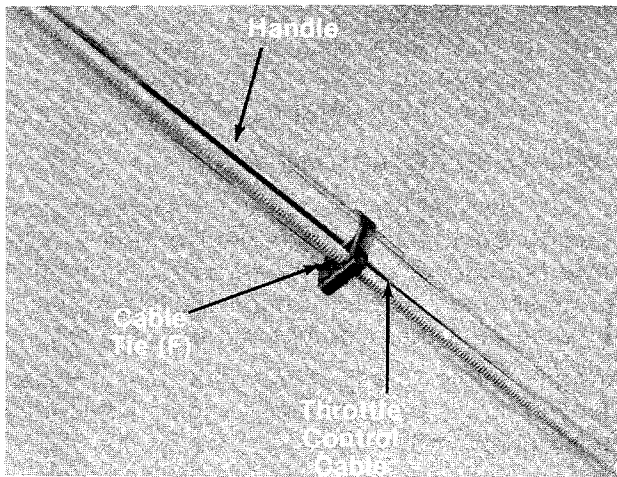

FIGURE 5.
6. Secure throttle control cable to upper and lower handles with cable ties (F) provided. See figure 5.